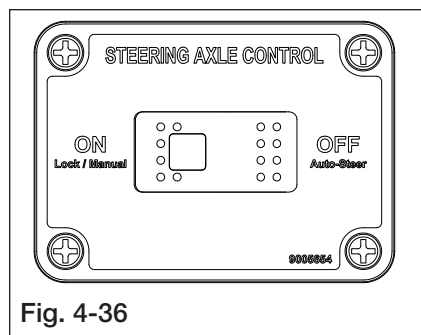

Fig. 4-36
2. Turn the steering axle control switch to the "ON/Manual-Steer" position, and ensure the hydraulic lever is in float. (Fig. 4-36)